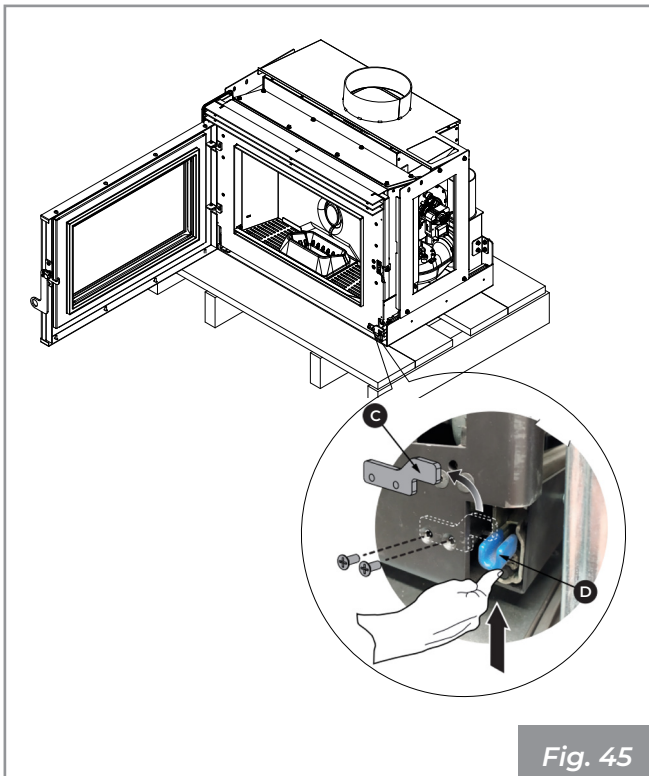

Fig. 45
- Remove the safety bracket, by loosening the two retaining screws.( **Fig. 45** )